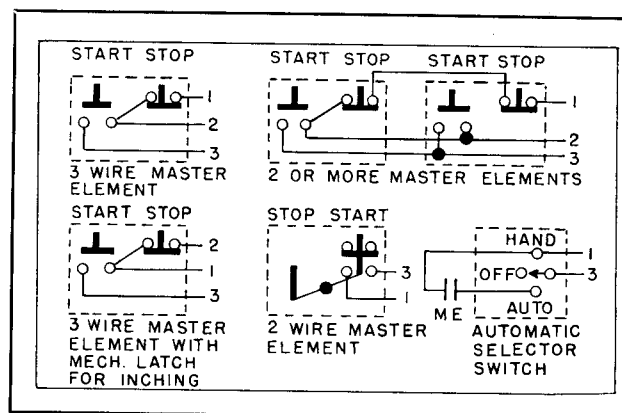

FIG. 2. Optional Connections to Master Elements Class 11-200
Fig. 2, page 2, shows some optional master element (Pilot Device) connections for Class 11-200 linestarters. These will often apply directly or with slight modification to the combination, reversing, and multi-speed starters also. Compare the specific elementary diagram for the starter under consider-
The inching connection shown in Fig. 2 is a simple low cost scheme that should be applied only after due consideration of the following points:
d. The latch which is used to latch the stop button down is the same latch which is sometimes used to lock the stop button open for safety in maintenance or shut-down procedures. If the inching connection of Fig. 2 is used, locking the stop button down has no element of shut-down or safety protection as start button will still start motor.
scheme for these starters and the inching connections of Fig. 2 be used only temporarily in an emergency or when local conditions are such that points A thru D above are inconsequential.